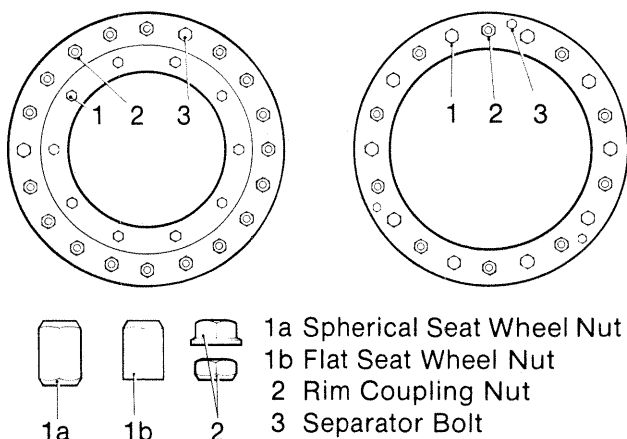

Fig 12-4
Check the wheel and wheel nuts for damage. Tighten the wheel nuts as required to a torque of 405 to 445 N.m (300 to 330 lbf.ft) for FLAT wheel nut seats or 575 to 645 N.m (425 to 475 lbf.ft) for SPERICAL wheel nut seats (See Fig 12-4).
3. Use tire tongs or another suitable tire lifting device to support the rim and remove the WHEEL STUD NUTS (See Item 1 in Fig 12-4). Remove the assembly from the machine.